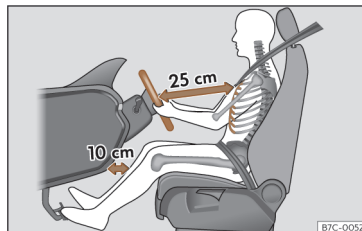

Fig. 14 The correct distance between the driver and the steering wheel must be at least 25 cm (10 inches).
- Adjust the steering wheel so that it is at a distance of at least 25 cm (10 inches) from the sternum >>> **Fig. 14** and can hold it with both hands on the sides, on the outside, with the arms slightly flexed.